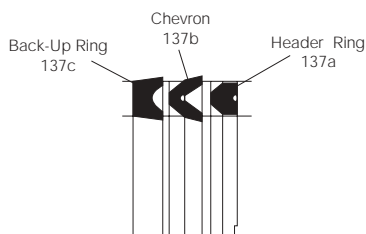
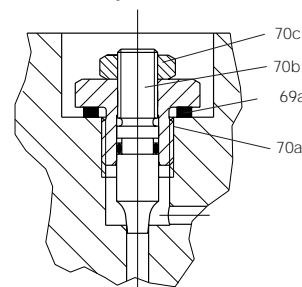

Fig. 8 Assembly Sequence of Chevron Seal Components
Fig. 9 Cushion Needle Valve
- 1 RGLL and RKLL gland service kits contain an O-ring (45) which acts as a static seal between the inner gland and head. This O-ring may be left in place unless it is faulty. If damaged, the old O-ring and its back-up washer (134) should be removed from the gland bearing, and the groove thoroughly cleaned. Lubricate the replacement parts, and fit the back-up washer into the groove, followed by the O-ring.
- 3 Fit the wear rings 139b into the gland, and slide the gland (14b), closed end first, onto the piston rod and press fully into the head (1).
- 4 Referring to figure 8, identify the header ring (137a) from the set of chevron seals and slide it, closed end first, onto the piston rod and into the gland, as shown in figure 4. Insert all the chevrons (137b) in the same manner, **with the lips of the seals facing the inner (cylinder) end of the gland.** When all the chevrons have been fitted, install the back-up ring (137c) with its angled face against the last chevron, as shown. Install the back-up washer (138) as shown in figure 4.
- 5 Fit the wiperseal (40) into the outer groove of the gland retainer (27), **with the lip facing outwards.** Lightly compress and insert the wear ring into the recess in the inner face of the retainer. Lubricate the retainer, seal and wear ring.
**125mm – 320mm bore cylinders:** secure using the hex-headed socket screws (136) and torque tighten to the figures shown on page 4.
**Servicing Cushion Needle Valves** Fig. 9